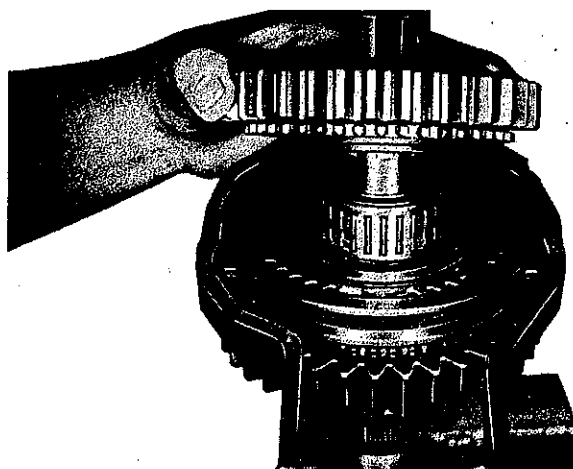

Fig. 29
9. Attach needle cage (414) and gear wheel reverse speed (428) with clutch teeth facing downwards (Fig. 29).